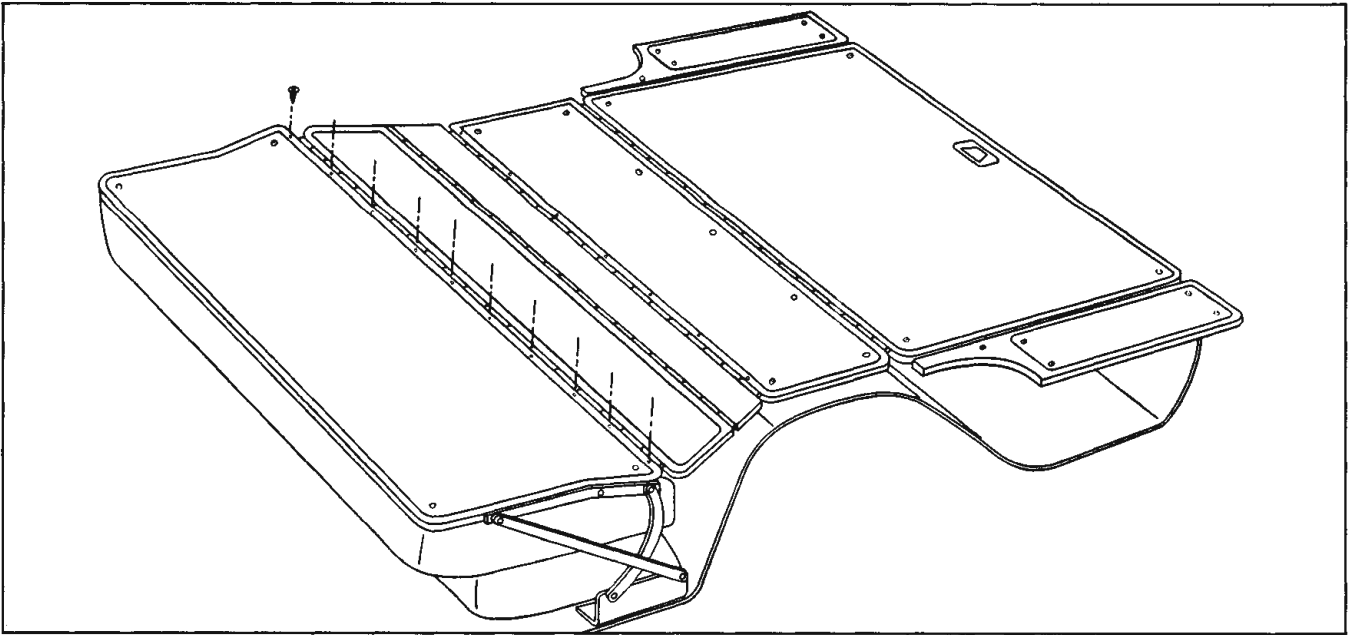

Fig. 18-7 Folding Rear Seat Back Assembly
2. Remove rear floor filler panel to folding seat back panel attaching screws as shown in Fig. 18-7.